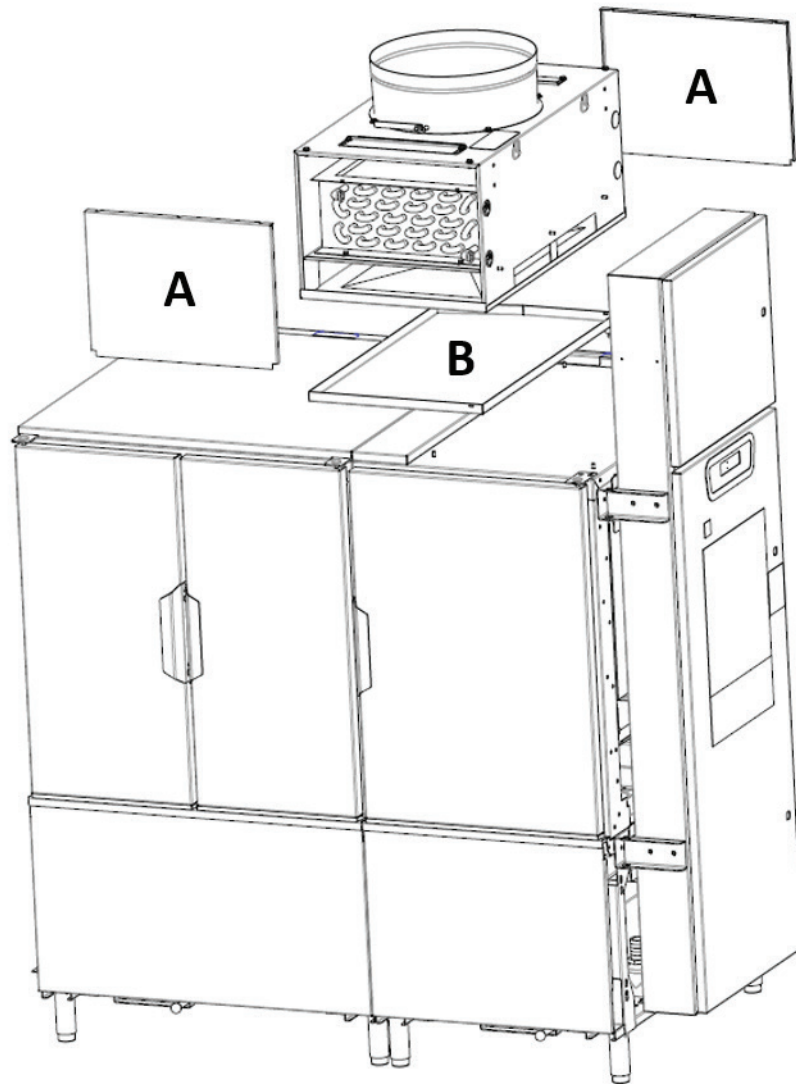

Fig. 2
1. Remove the front and rear energy recovery panels by loosening the two nuts on top of each panel (Fig. 2, item A).
2. Remove the drain pan located in the base of the energy recovery assembly (Fig. 2, item B).